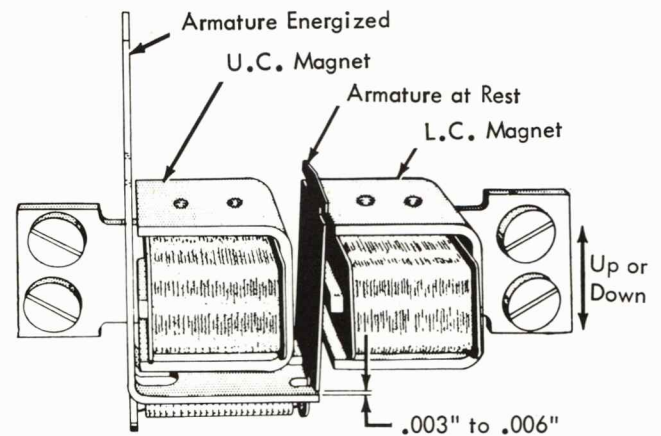

FIGURE 37. LC Magnet Assembly (Up or Down)
- b. Up or Down - UC armature (energized) clears the LC armature (at rest) by .003" to .006" (Fig. 37).